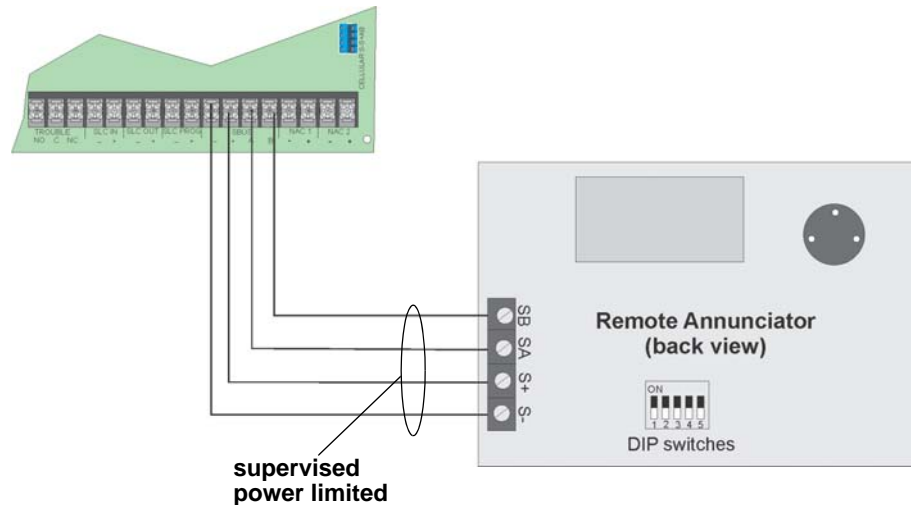

**Figure 4.24 Flush Mounting the Back Box**
3. Fit the annunciator back box into the hole and stabilize with mounting wires. Angle the mounting wires into the first hole past the sheet rock. Secure the wires behind the screws as shown in Figure 4.24. When all four wires are in place, the back box should fit snugly into the hole in the sheet rock.